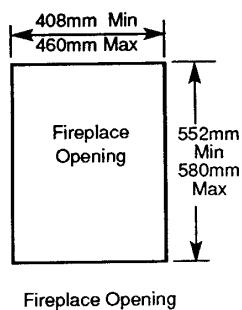

Fig. 2
1. Any chairbrick must be removed if necessary to achieve the minimum depth. The fireplace opening must be a minimum of 408mm (16 ¹/₁₆ in) wide (Fig. 2).